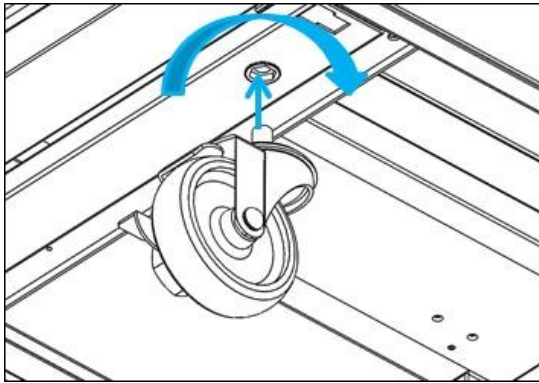

Figure 3
(1). Reach-ins (Figure 3): Install casters in the bottom rails assembly on the bottom of the unit. It is important in order to achieve maximum strength and stability of the unit that you ensure that each caster is securely tightened with a 3/4" (19mm) open-ended wrench. Casters with brakes Must be installed in front, and the casters must be in contact firmly with the bottom rails of the unit.